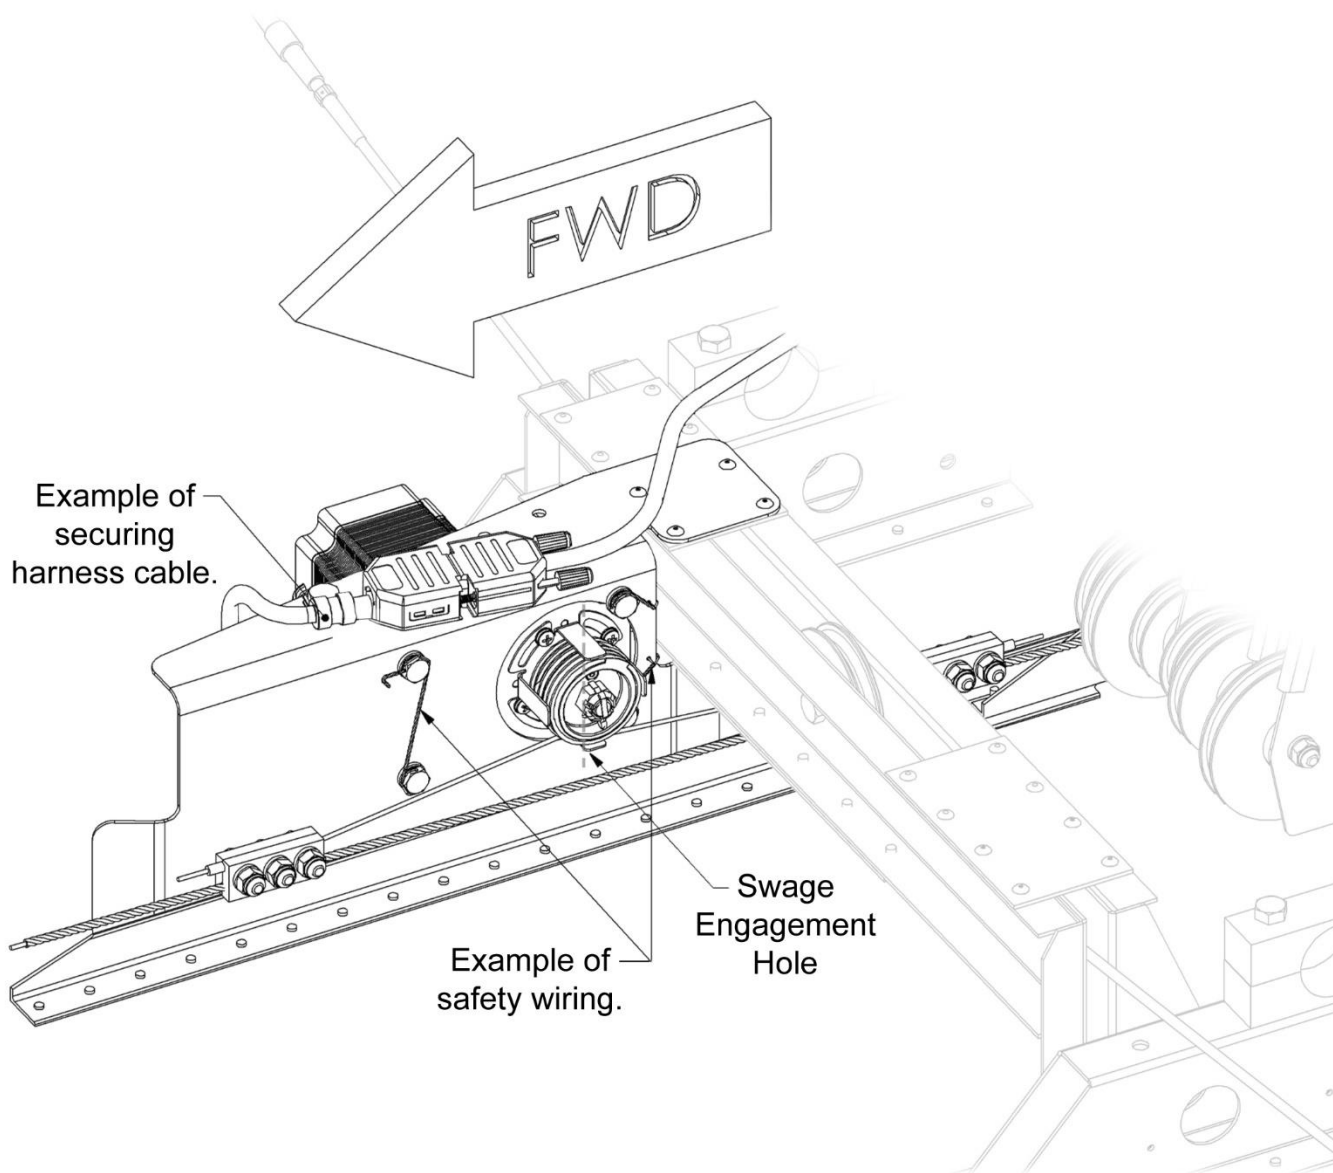

Figure 23: Pitch Servo Complete Installation
- Capstan swage engagement hole is positioned as shown in Figure 23.